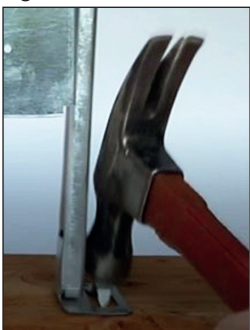

Fig. 6
- Extend hanger bars between joists. Hanger bars can be adjusted to accommodate joist centers between 16" to 24". Hammer in securement tabs into ceiling joist. [ Fig. 6 ]